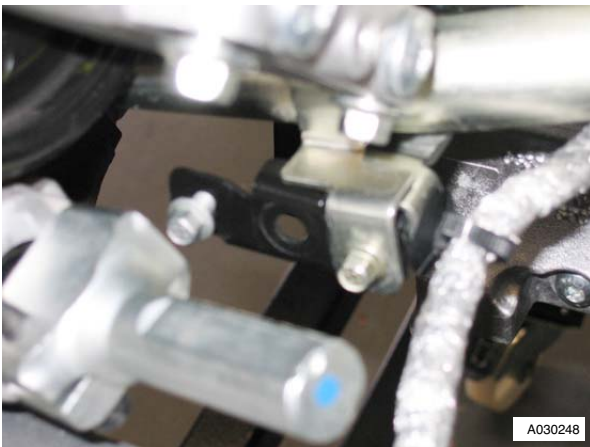

Figure 1
3. Remove bolt, pipes to bracket (refer to Figure 1).